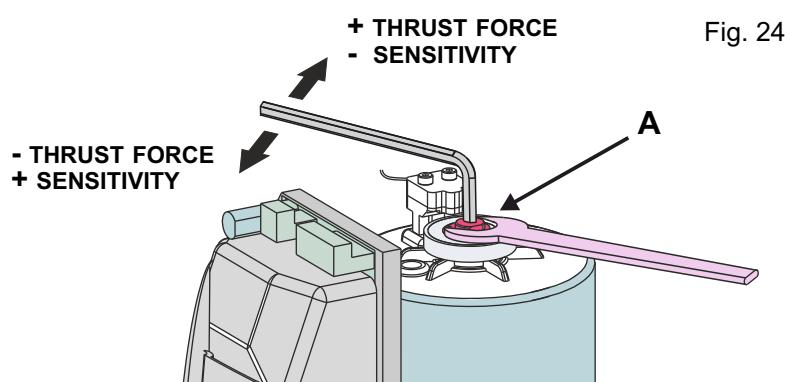

Fig. 24
- 10.2. To adjust the clutch, act on the grub screw «A» Fig. 24 - as follows: